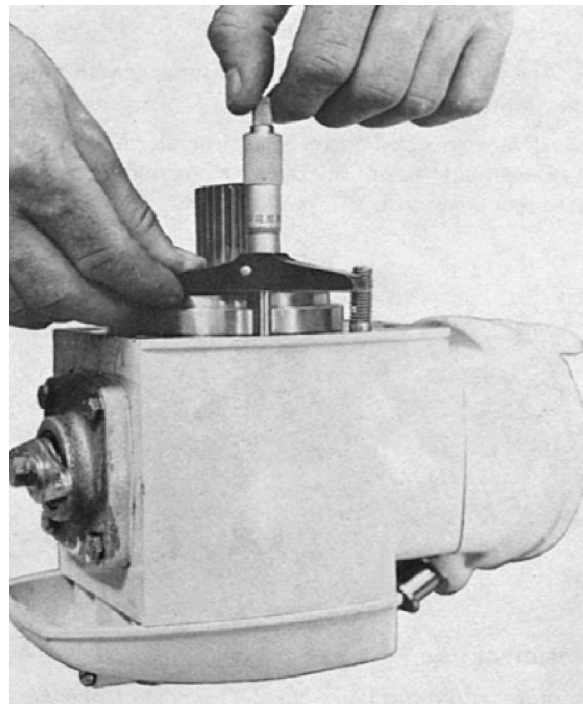

Fig. 44.
1. On the upper gear housing measure the distance from the outer bearing race on the lower ball bearing (39, Fig. 57) to the face of the gear housing. See Fig. 44.